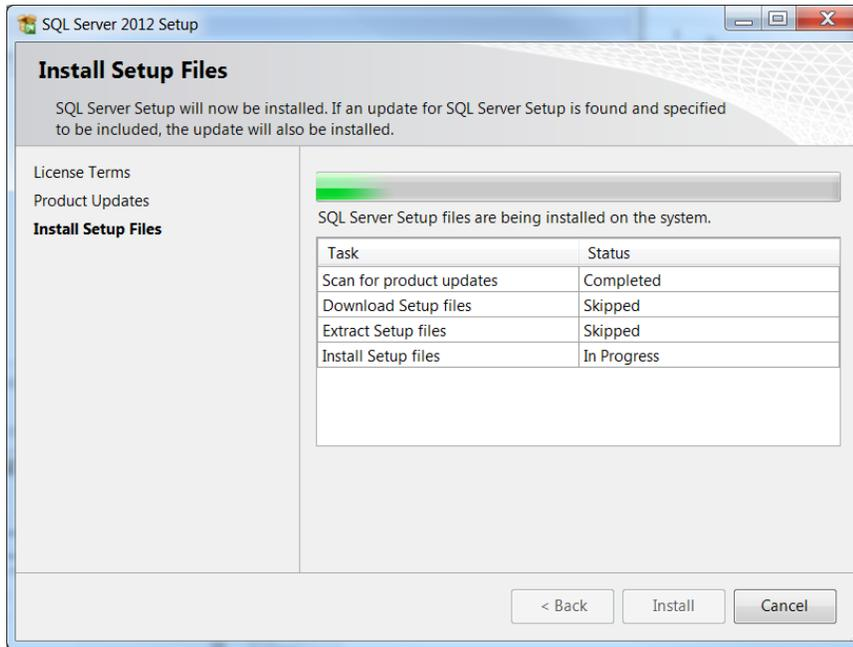

Figure 13: SQL Server 2012 Install Setup Files
- 7) To install setup files (Figure 13), click **Install**. Observe the progress bar as files are installed